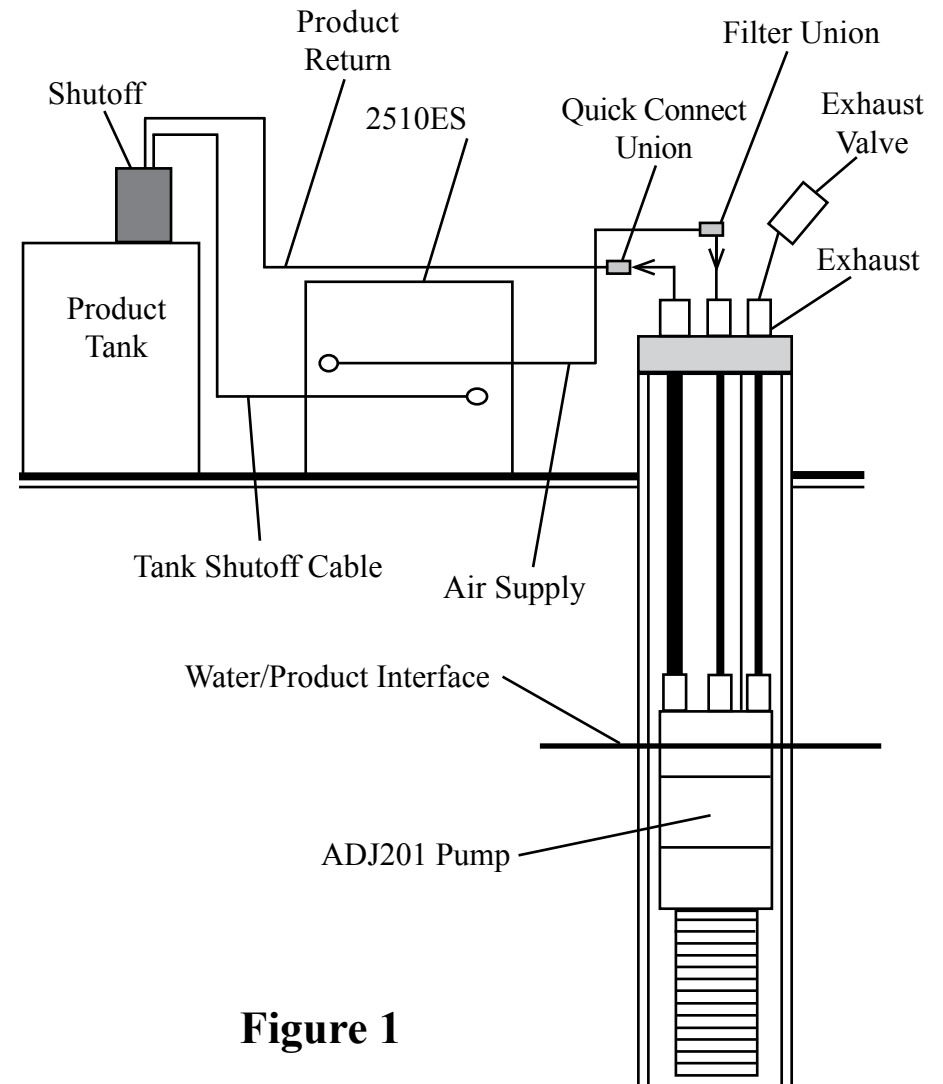

Figure 1
The system (Figure 1) relates to sinking DNAPL recovery in wells two inches in diameter and larger. This system includes: an intrinsically safe pneumatic ADJ201 Smart Pump (Figure 2) which removes the DNAPL down to 200 feet deep; and a electronic Control Station Model 2510ES which operates the pump intermittently, records run time, and has a high level tank shutoff.
STEP 1. Place electronic Control Station Model 2510ES (Figure 1) near the air source, power source, and holding tank if possible. **CAUTION:** The standard electronic controller is NOT intrinsically safe. If this controller must operate in a CLASS I area, the XITECH Model 2550ES CLASS I controller will be required.
STEP 2. Install holding tank shutoff assembly into holding tank (a 2" standard pipe inlet will be required in the holding tank). The level of product in the holding tank can be set by raising or lowering the liquid level float switch rod. Plug the high level shutoff switch cable connector into the left end of the controller (Figure 1).
STEP 3. Attach power line from the AC power source to the right end of the control station (Figure 1). Turn on the controller power switch. If the red "Product Tank Full" light stays on, you have a problem with tank shutoff wiring. Turn off the power switch and re-check the tank shutoff wiring. If the light continues to stay on, call the factory.